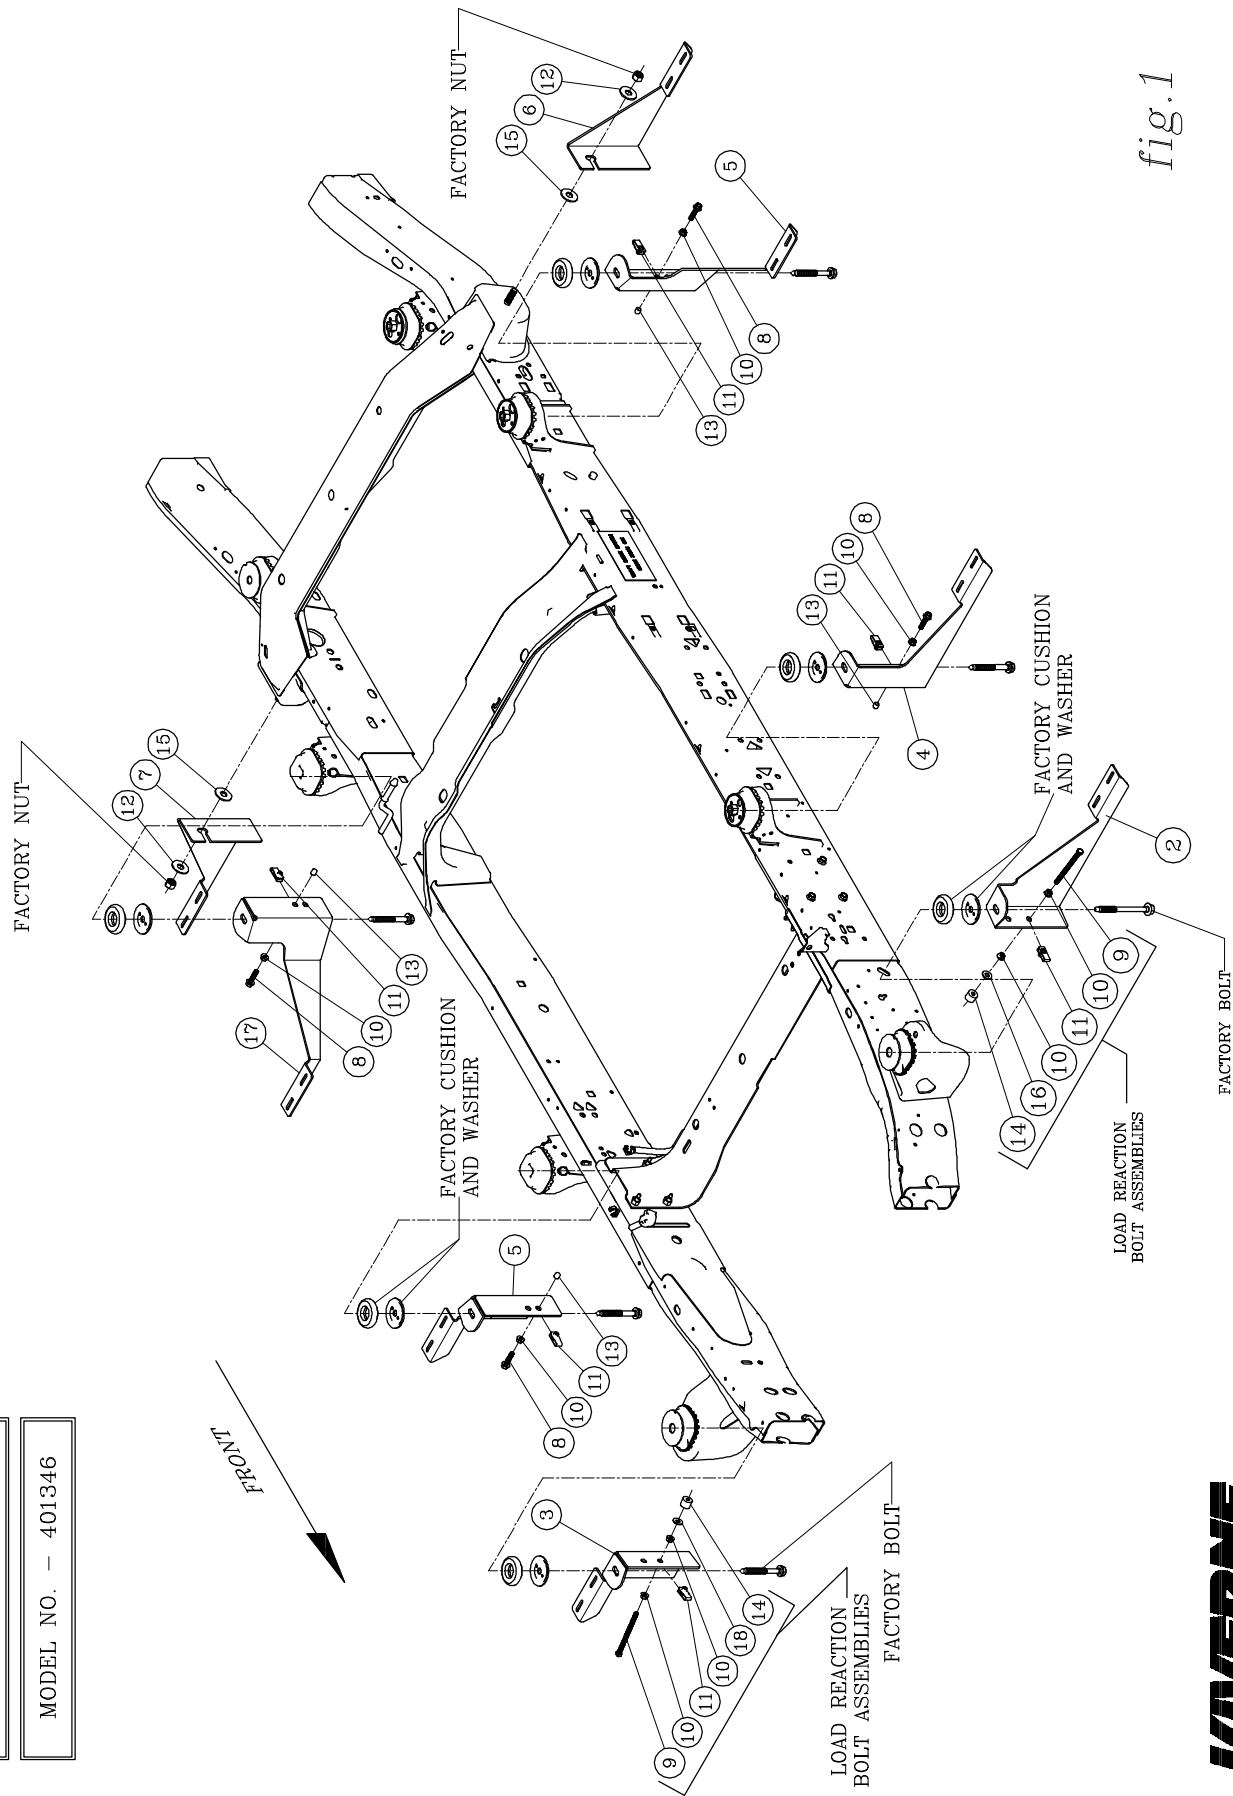

fig.1
4. INSTALL A 3/8"-16 SERRATED FLANGE NUT (ITEM #10) ON THE 3/8"-16 X 5" HEX BOLT (ITEM #9) WITH THE FLANGE FACING TOWARD THE END OF THE BOLT AND TURN ON JUST SHORT OF THE HEAD. SCREW THE BOLT INTO THE U-NUT AND WHEN IT COMES THROUGH THE OTHER SIDE START ANOTHER FLANGE NUT FACING THE SAME DIRECTION AS THE FIRST NUT. TURN THE NUT ON UNTIL THERE IS 3/4" PROTRUDING FROM THE FACE OF THE NUT, INSTALL A 3/8" FLAT WASHER (ITEM #16) AND THE .354 X 1.00 X .748 RUBBER WASHER (ITEM #14) INTO THE END OF THE BOLT. ADJUST THE LOAD REACTION BOLT ASSEMBLY SO THAT THE RUBBER CUSHION IS SNUG AGAINST THE FRAME AND TIGHTEN DOWN THE OUTSIDE FLANGE NUT. **(LOAD REACTION BOLT ASSEMBLY)** AS SHOWN IN *fig. 1*.
8. INSTALL A 3/8"-16 SERRATED FLANGE NUT (ITEM #10) ON THE 3/8"-16 X 1-3/4" HEX BOLT (ITEM #8) WITH THE FLANGE FACING TOWARD THE END OF THE BOLT AND TURN ON JUST SHORT OF THE HEAD. SCREW THE BOLT INTO THE U-NUT AND WHEN IT COMES THROUGH THE OTHER SIDE ADJUST THE LOAD REACTION BOLT ASSEMBLY SO THAT THE RUBBER PLUG IS SNUG AGAINST THE FRAME AND TIGHTEN DOWN THE OUTSIDE FLANGE NUT. **(LOAD REACTION BOLT ASSEMBLY)** AS SHOWN IN *fig. 1*.